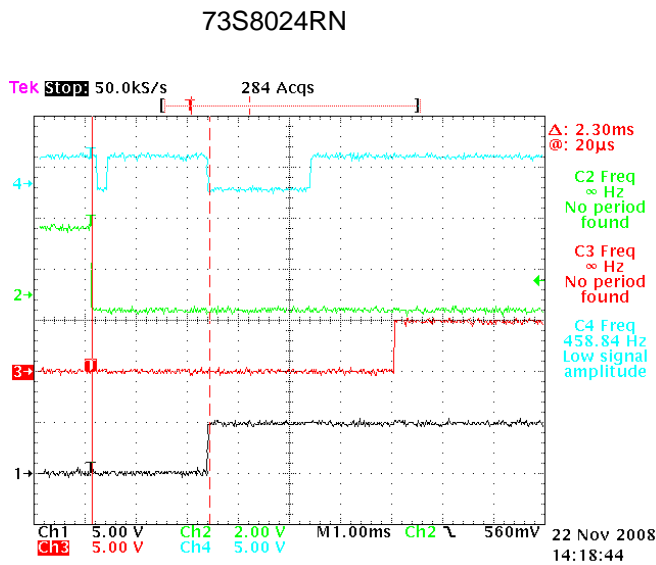
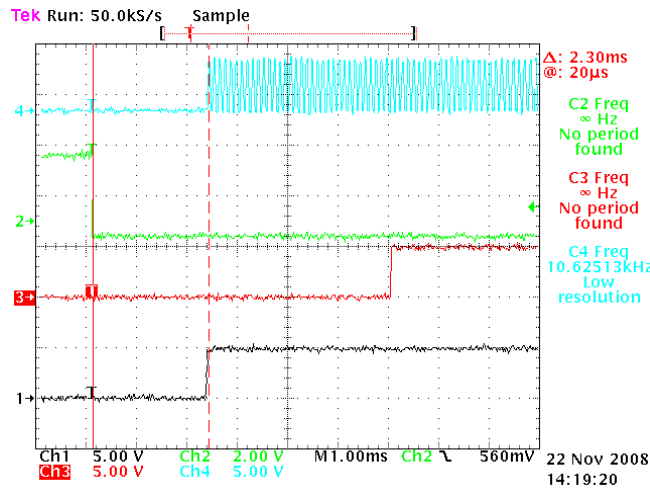

Figure 26: 73S8024RN, Case 5, Legend A
Figure 28: 73S8024RN, Case 5, Legend B
- Case 5: RSTIN is high before T0, goes low and then high before T1, goes low after T1 and goes high sometime later. See Figure 26 through Figure 28.